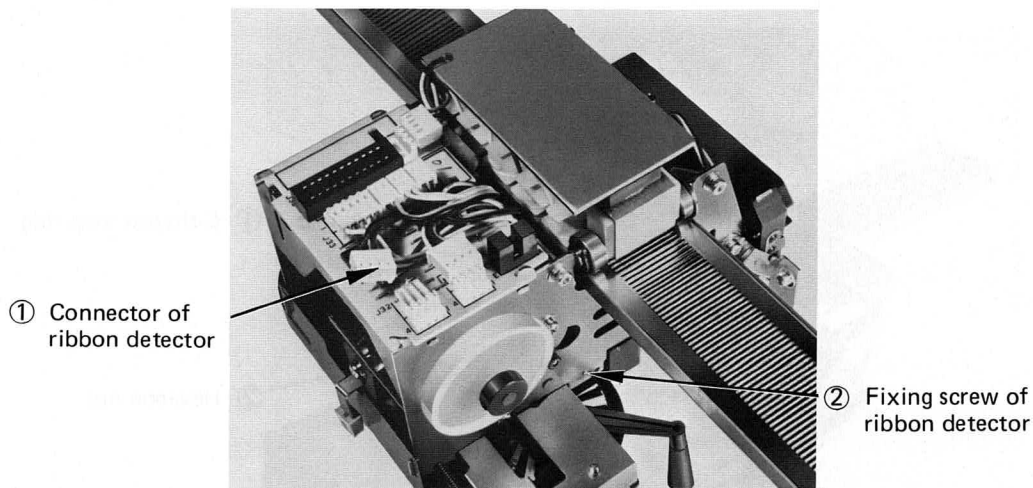

Fig. 5.14
- Step 1. Remove the carriage unit and disconnect connector ① from the ribbon detector. (Fig. 5.14)
- Step 2. Remove fixing screw ② of the ribbon detector and take off the ribbon detector. (Fig. 5.14)